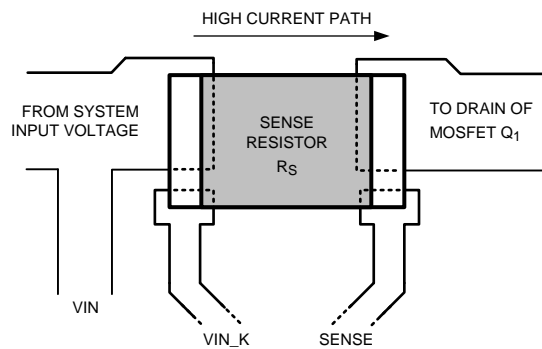

Figure 17. Sense Resistor Connections
10. The board's edge connector can be designed such that the LM5066I detects through the UVLO/EN pin that the board is being removed, and responds by turning off the load before the supply voltage is disconnected. For example, in Figure 17, the voltage at the UVLO/EN pin goes to ground before VIN is removed from the LM5066I as a result of the shorter edge connector pin. When the board is inserted into the edge connector, the system voltage is applied to the LM5066I's VIN pin before the UVLO voltage is taken high, thereby allowing the LM5066I to turn on the output in a controlled fashion.